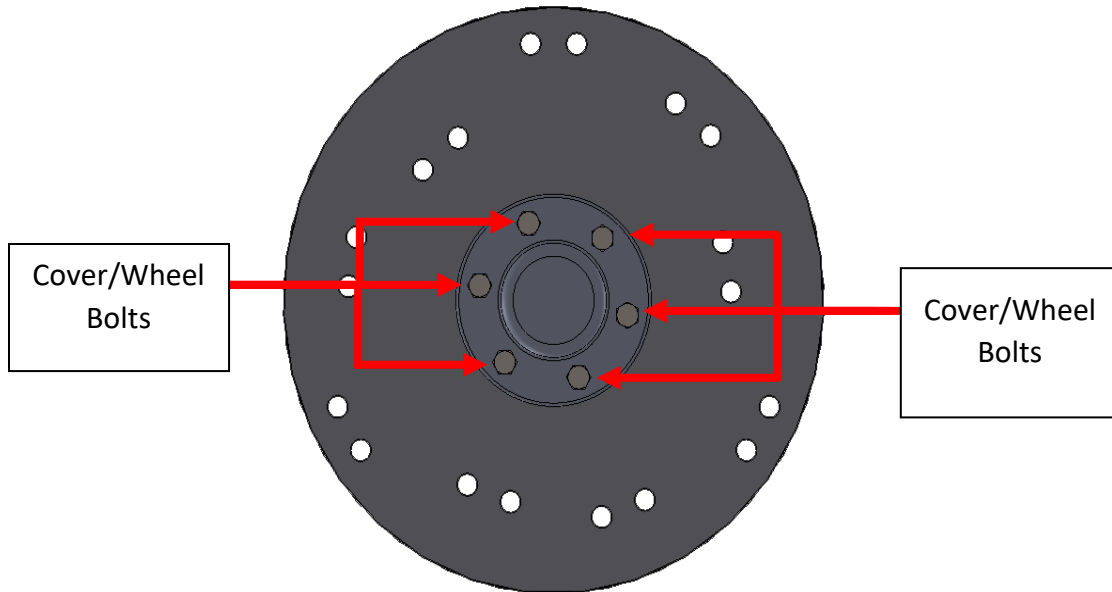

Figure 1.1
1. Remove 6 bolts attaching the center cover and wheel to the cutter wheel hub. (Figure 1.1)